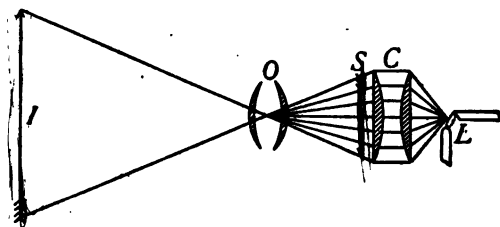

FIG. 395.—Diagram of the projecting lantern.
394. The projecting lantern (see Fig. 395) employs a strong source of light, as an electric arc lamp L , to strongly illuminate a transparent picture, or *lantern slide*, S , a real image (I) of which is formed upon a large screen. Two large plane-convex lenses (C), called condensing lenses, are placed near the lamp to concentrate the light upon the “slide” S . The convex lens forming the image is called the “objective” (O).